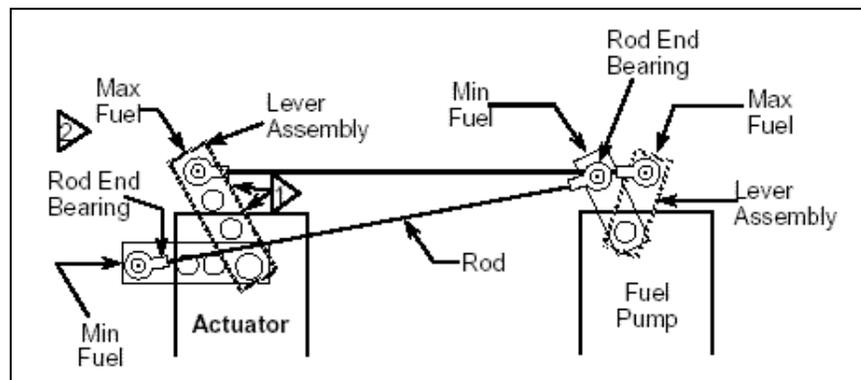

Figure 4. Rotary Actuator to Rotary Fuel Pump Linkage
2. Set up the linkage and rod end bearings as shown in **Figures 4** and **5**.